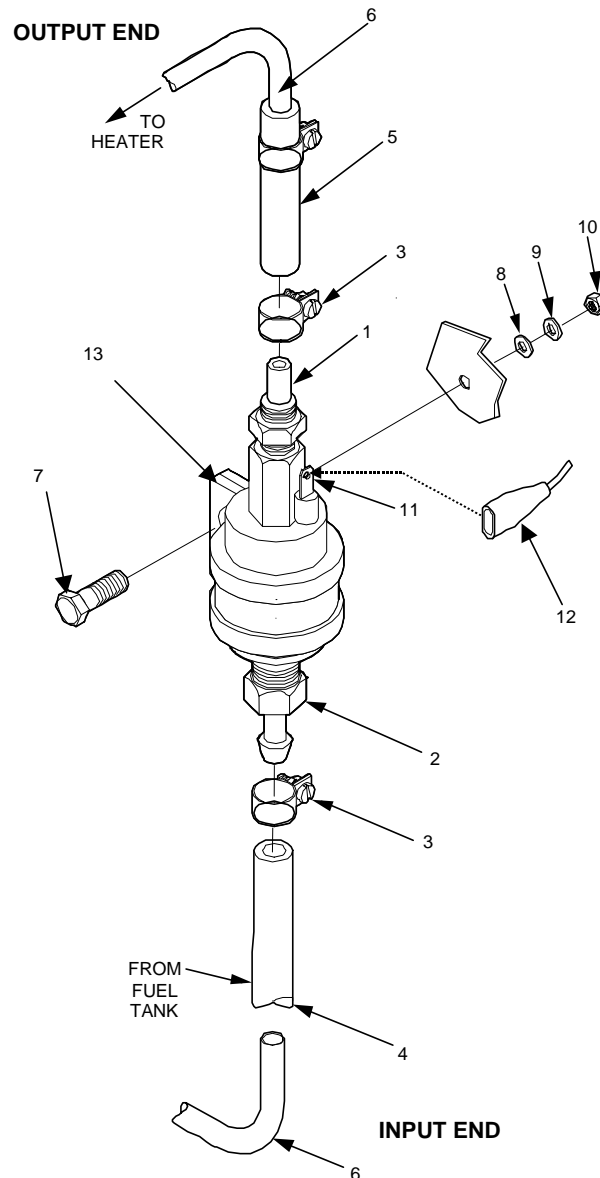

Figure 4-22. Fuel Pump Maintenance.
2. Disconnect electrical leads (12) from connector (11), Figure 4-22, on fuel pump (2).
3. Loosen screw clamps (3) to disconnect fuel line and butt splice (4) from input end of fuel pump (2). Drain any fuel from line into a suitable container.
4. Loosen screw clamp (3) to disconnect butt splice (5) and fuel line (6) from output end of fuel pump (2). Drain any fuel from line into a suitable container.
5. Remove nut (10), lock washer (9), flat washer (8) from bolt (7). Then, remove bolt.
6. Remove fuel pump (2) from clamp (3).